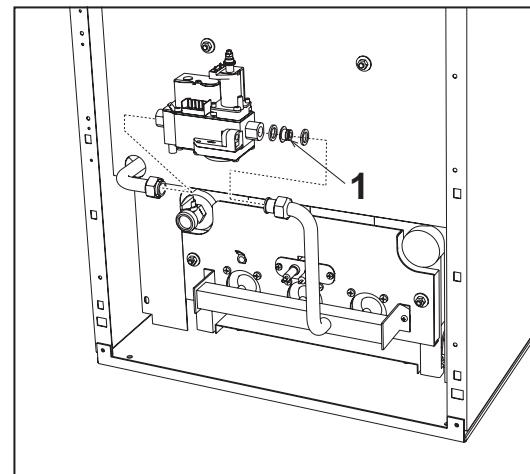

fig. 18 - Gas baffle
**!** To change from Natural Gas to LPG, it is necessary to **remove** the gas baffle (1 - fig. 18)
To change from LPG to Natural Gas, it is necessary to **fit** the gas baffle (1 - fig. 18 and table 4 on page 18)